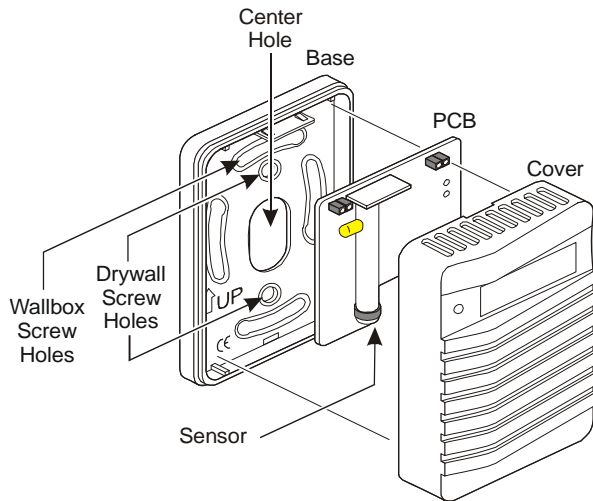

Figure 3: Mounting the Transmitter
6. To install the PCB into the base, refer to Figure 3 and:
4. To install the PCB into the base, refer to Figure 3 and:
6. Reposition the cover (see Figure 3).
- If the contacts are open, increase the CO₂ concentration by exhaling near the sensor looking for a change in the resistance value. (See Figure 3.)